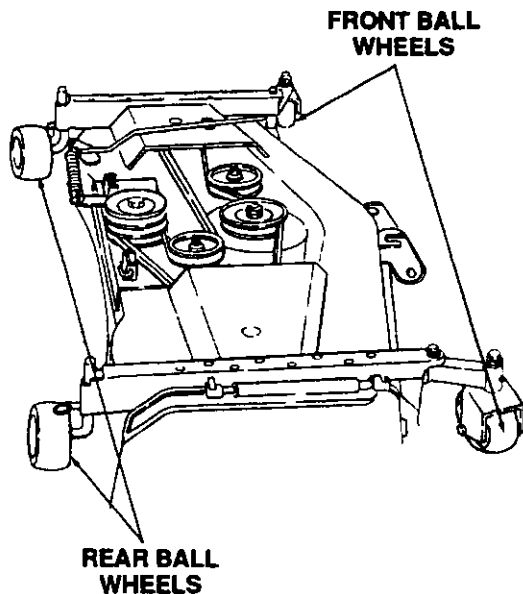

Figure 27
3. In order to facilitate sliding the deck out from under the tractor, raise tractor implement handle to its highest setting and reposition all four ball wheels as shown in Figure 27. Remove quick release pins and rotate right rear ball wheel outward 90 degrees and left rear ball wheel inward 90 degrees. Remove quick release pins and rotate left front castor assembly outward 80 degrees (maximum rotation) and raise right front castor assembly to its uppermost position (but do not rotate). Reinstall three of the quick release pins to secure three of the ball wheels in their uppermost positions so the deck is in the lowest position possible relative to the hard, level surface below. The left front castor assembly cannot be secured with a quick release pin when it is in its rotated position.